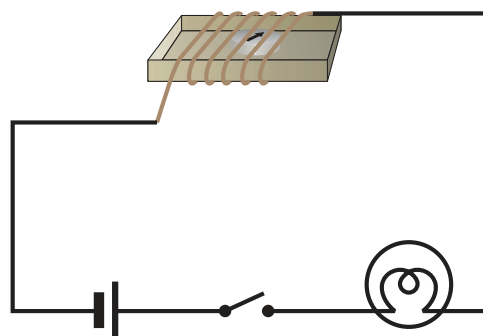

Fig. 14.17 Effect of current on a compass needle
Take the cardboard tray from inside a discarded matchbox. Wrap an electric wire a few times around the cardboard tray. Place a small compass needle inside it. Now connect the free ends of this wire to an electric cell through a switch as shown in Fig. 14.17.
1. Set up the circuit shown in Fig. 14.17 again. Move the key to 'ON' position and watch carefully in which direction the compass needle gets deflected. Switch 'OFF' the current. Now keeping rest of the circuit intact, reverse the connections at the terminal of the cell. Again switch 'on' the current. Note the direction in which the needle gets deflected. Think of an explanation.